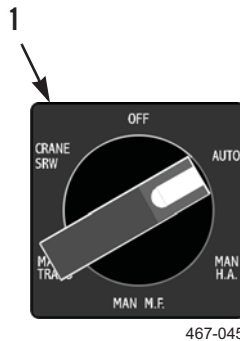

Figure 35. MODE Switch at AUTO.
2. With engine at idling speed, set MODE switch (Figure 35, Item 1) to AUTO (PLS: TM 9-2320-364-14&P, HEMTT: TM 9-2320-326-14&P).